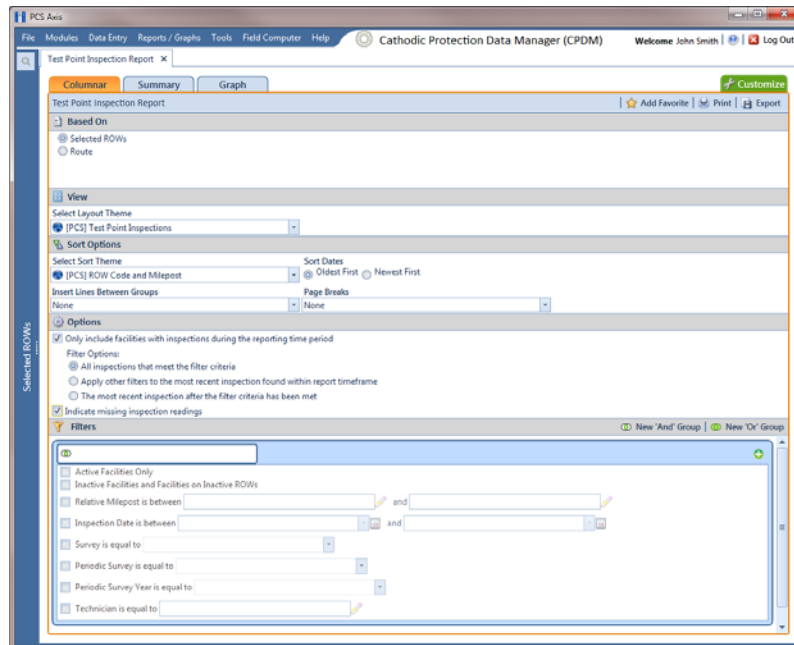

Figure 15-22. Test Point Inspection Report
- 2 Click **Reports/Graphs** and then select a report in the menu to open a window with report property settings. If the *Columnar* property settings window is not visible, click the **Columnar** tab  to open the window (Figure 15-22, page 636).
The following figure shows an example of the *Columnar* property settings window for the *Test Point Inspection Report* (Figure 15-22, page 636).